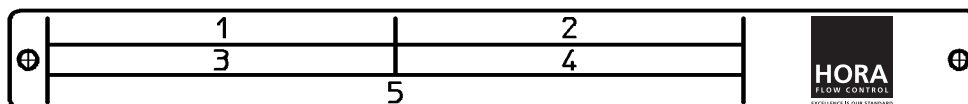

Fig. 6: Nameplate
Quote the data on the nameplate (see Fig. 6) when ordering spare parts:
- Fabrication No. (Fig. 6 Box 1)
- Type (Fig. 6 Box 2)
- Spring (Fig. 6 Box 3)
- Air supply pressure (Fig. 6 Box 4)
- Function (Fig. 6 Box 5)